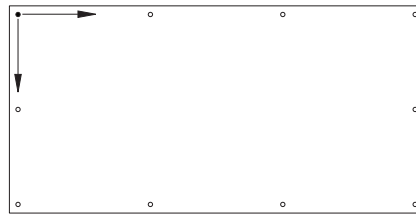

Fig. 3 · Each panel should have a single fixing point. The remainder of the holes should be slightly larger than the fasteners.
10. Place panel on the wall and temporarily secure its position with shims, blocks, or clamps. Ensure that the panel fasteners are properly centered in panel holes. Each panel should have one fixing point (a smaller hole than the others) that controls the point of expansion and contraction (Fig. 3). All fixing points should align with the surrounding panels. Fixing holes must be located not less than 20mm and not more than 40mm from the panel edges. Corner fixings should be located not more than 40mm from either edge. Do not over tighten the screws as striping or shearing the fastener head might occur. NorthClad® provides engineering services